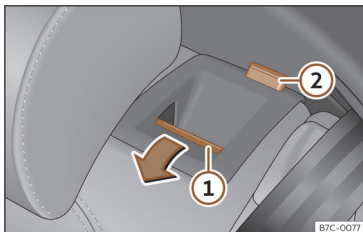

Fig. 99 Rear seat: folding down the backrest.
- Press the unlock button >>> **Fig. 99** ① forwards and at the same time fold the backrest down. The rear seat backrest is not engaged when the red marking of the button ② is visible.